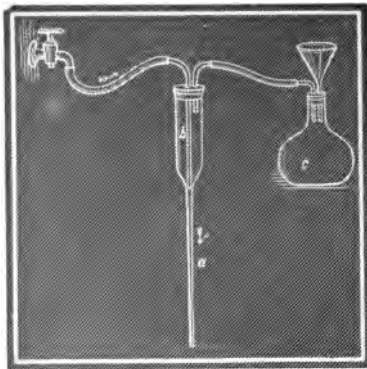

Fig. 51.
In small schools this should be a volunteer class and the work extra, put in after school hours or on Saturdays. Be sure you want to do the work before you undertake it. Don't talk to others while at work, except in rare instances so far as quietly to obtain information. Don't "fool" in the laboratory and report those who insist upon doing it, that they may be promptly removed from the class. Have no false honor about this, for the nonsense of one may vitiate all *accurate* work for a class.—Reserve a portion of the original solution to begin upon again in case of accident, also for special tests.—Common drinking water, boiled, cooled, and filtered, usually answers for all work with the first two Groups; but distilled water must be used for the other Groups, and is better for all reagents.—Precipitate *thoroughly* each Group, but on the other hand avoid much *excess* of the precipitating reagent.—Evaporate filtrates if they become too dilute. A coal-oil stove makes a cheap source of heat for evaporation.—Avoid breathing, to any great extent, fumes of hot HCl , $\text{H}_4\text{N H O}$, H N O_3 , aqua regia, etc. Hold dishes at arms' length while pouring such liquids. Under a gas chimney with flame at base to increase draft, is the proper place to generate noxious fumes; but such work may be easily done upon a shelf by open window with slight outward draft.—Make $(\text{H}_4\text{N})_2\text{S}$ by passing H_2S into dilute $\text{H}_4\text{N H O}$ (10%) till saturated and then add equal volume of $\text{H}_4\text{N H O}$. Digest this with a little S and filter to make $(\text{H}_4\text{N})_2\text{S}_2$ (yellow), or expose $(\text{H}_4\text{N})_2\text{S}$ to air for sufficient time.—A convenient H_2S generator is shown in FRONTISPIECE (2). The middle bulb contains Fe S. A test-tube with small hole in bottom (containing a little broken glass upon which is Fe S), lowered into wide-mouthed bottle of dilute $\text{H}_2\text{S O}_4$ and test-tube closed by perforated rubber stopple through which is glass tube connected with rubber tube held by spring, Fig. 46, makes a cheap H_2S apparatus.—Fig. 50 shows a convenient reagent bottle with pipetted stopple. Take test-tube to bottle to add reagent, not bottle to test-tube, and be careful not to stir up any sediment which may have fallen in case drinking water has been used.—Fig. 51 represents a system of *rapid filtration*. The stream of water must be regulated. The longer the tube *a*, the more rapid the filtering. Chamber *b* must be air-tight at top. Pt (foil) funnel-shaped filter paper at bottom, and the wet edges of filter paper must be pressed firmly against upper part of funnel. A partial vacuum is formed in chamber *b* and flask *c*.—For color of precipitates, additional tests, etc., see EXP. 97 and INDEX, also have a work on *Qualitative Analysis* upon the desk for reference.